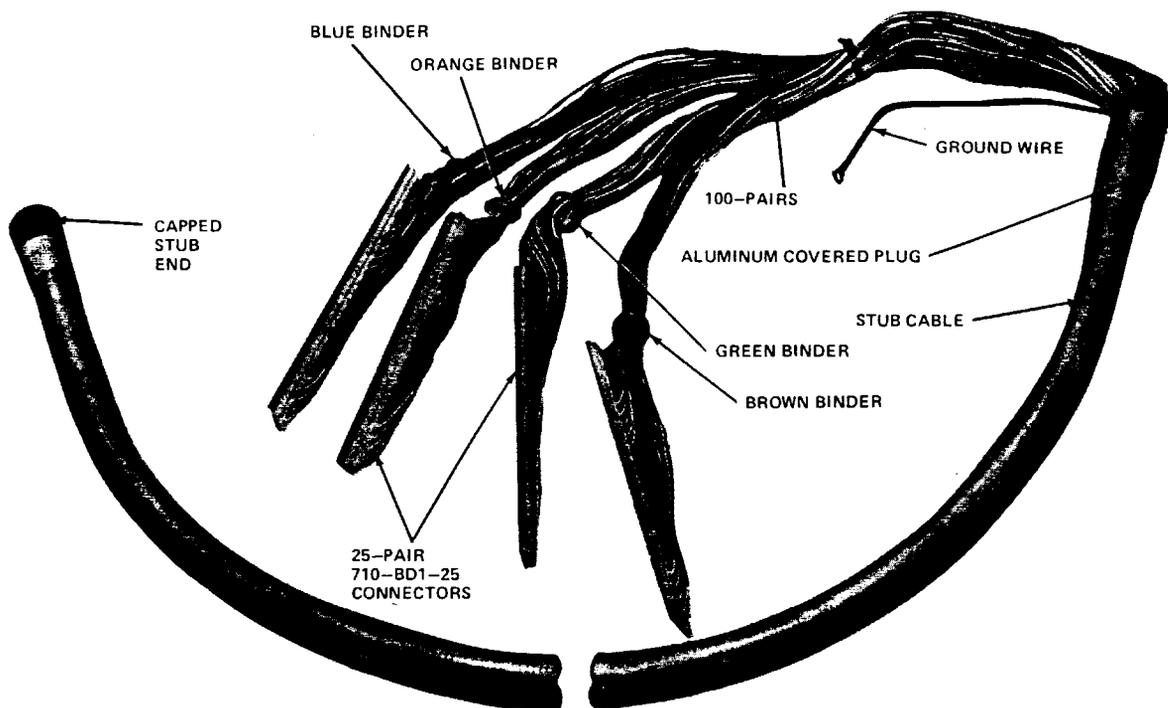

Figure 13. 11-Type Connectorized Stub Cable
4.01 Stub cables (Figure 13) are used with 307-type connectors and to interconnect to outside plant cables, and must be ordered separately. Table B is a guide for selecting stub cable gauges.